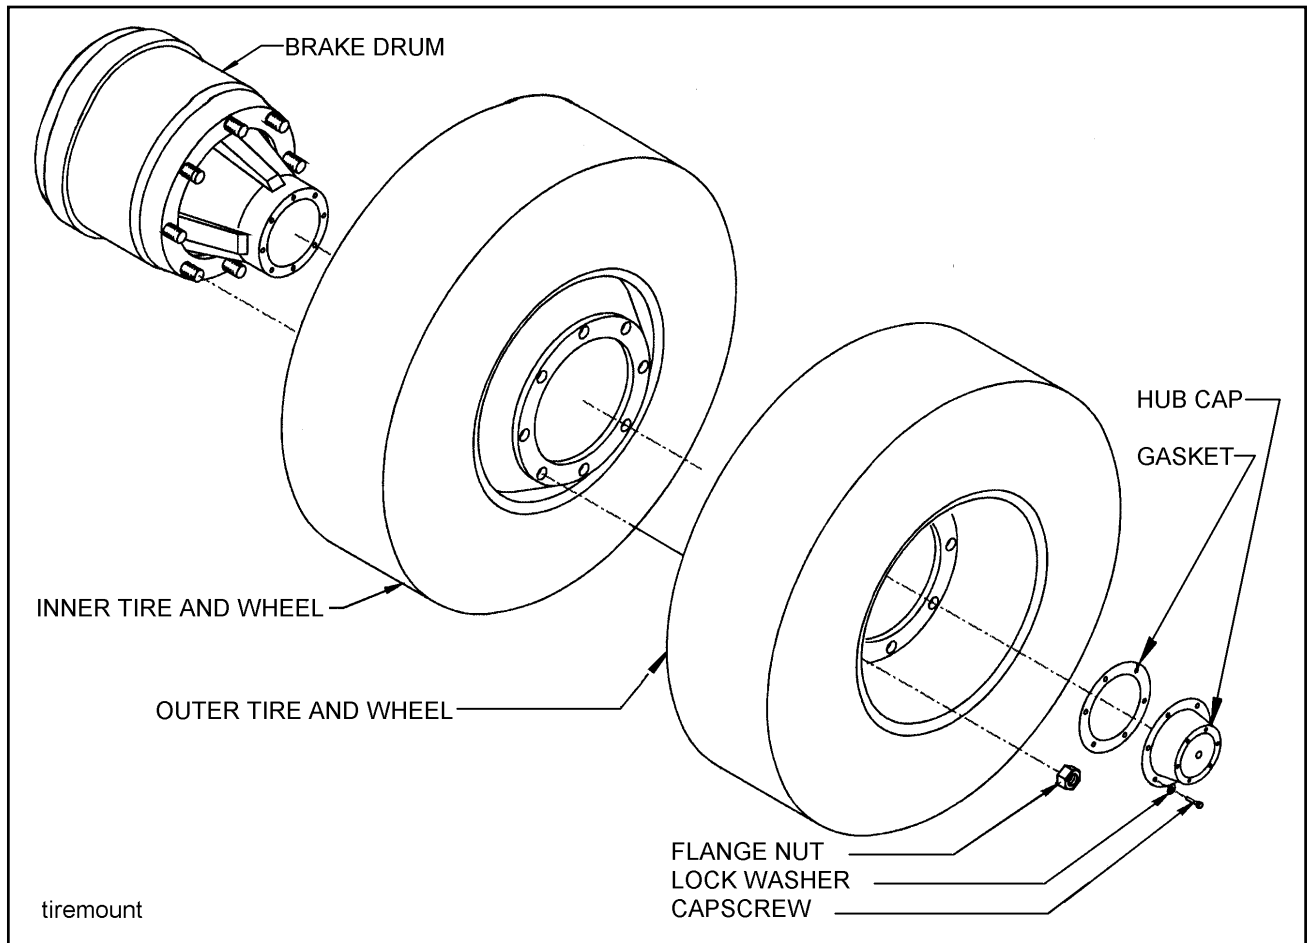

Figure 4-12 Mounting Tires and Wheels
- a. Make sure that all mounting surfaces are clean and free of rust, dirt or paint. A wire brush may be used to clean these surfaces **(See Figure 4-12)**.